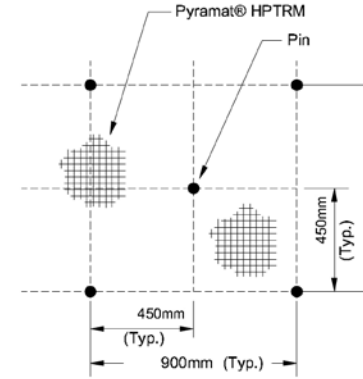

FIGURE 6: PIN PATTERN DETAIL
- Secure mat using suggested ground pinning devices for appropriate frequency and pattern shown on the Pin Pattern Guide (see Figure 6)